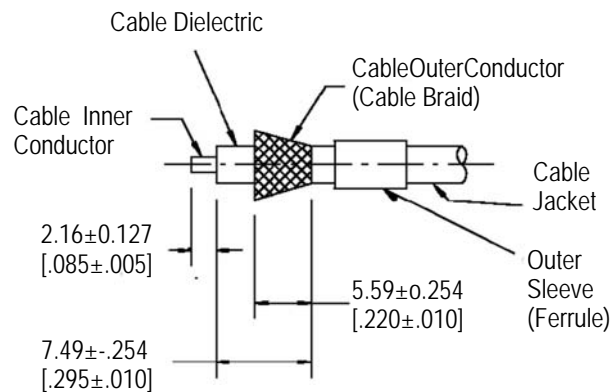

Figure 2
2.1. Coaxial Cable Preparation (Figure 2)
- Strip the end portion of the cable jacket to expose the cable outer conductor (cable braid) to the dimensions in Figure 2.
- Flare the outer conductor as shown in Figure 2.